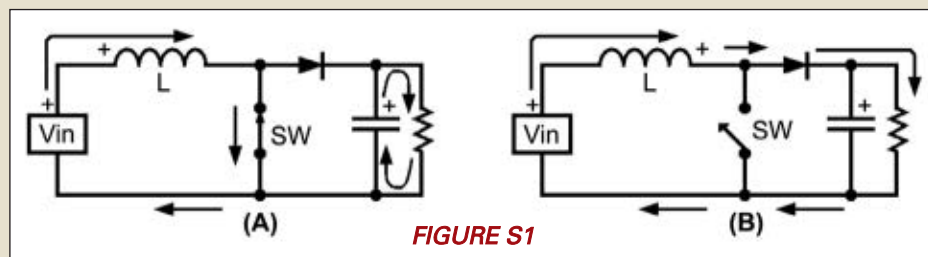

FIGURE S1
The regulator of Figure S1 is a boost circuit. Let's suppose it has been running for a while so there is voltage on the capacitor. In (A), the switch is closed and the inductor is charging up its magnetic field. The diode is reverse-biased, and the load resistor is drawing current from the capacitor. In (B), the switch opens and the collapsing magnetic field of the inductor produces voltage with a polarity that adds in series with V_{in} . The diode is forward-biased and the capacitor charges up to a voltage that is higher than V_{in} . The output voltage has been boosted up. As with the buck converter, the output voltage is a function of the duty cycle. (The duty cycle is controlled by a feedback loop not shown in Figure S1.)